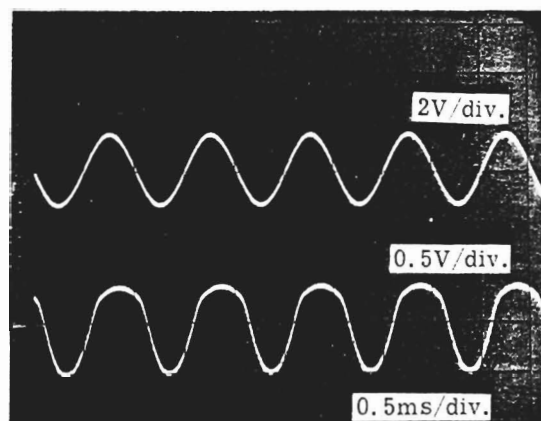

Figure 5-14. Bridge Circuit Check A
- q. Oscilloscope pattern should be as shown in Figure 5-14. The amplitude is about 1.0V p-p and the phase relation between A channel and B channel is 45° out of phase.